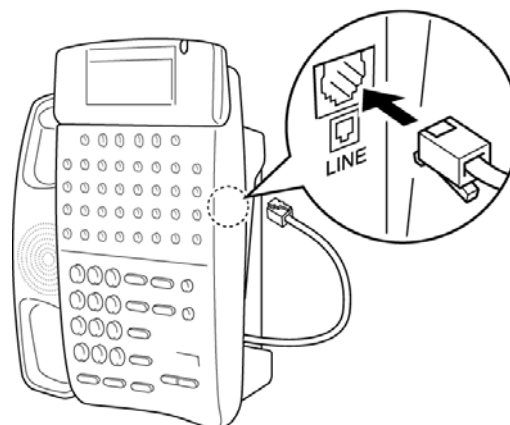

Figure 4-26: Plugging in Line Cord
6. Plug the line cord into the telephone as illustrated in *Figure 4-26: Plugging in Line Cord*.